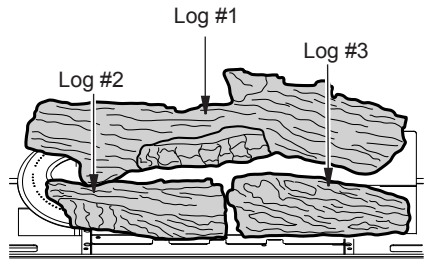

Figure 18 - Installing Logs 1, 2 and 3
1. Install log 1 onto the two slots in the middle plate (see Figure 18).
2. Install log 2 onto the two slots in the left plate (see Figure 18).
3. Install log 3 onto the two slots in the right plate (see Figure 18).